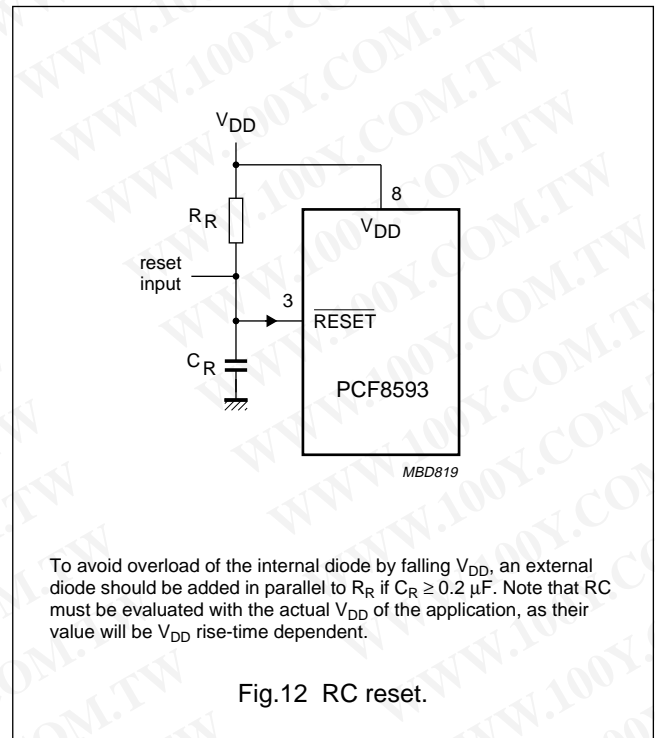

Fig.12 RC reset.
7.11 Initialization (see Fig.12)
An RC combination can also be utilized to provide a power-on RESET signal at pin 3. In this event, the values of the RC must fulfil the following relationship to guarantee power-on reset (see Fig.12).